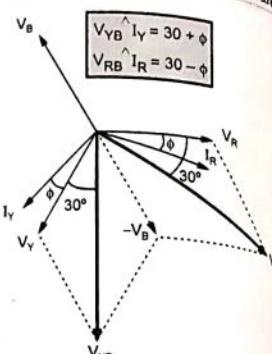

Fig. 4.14.2
- From Fig. 4.14.2,  $I_R \wedge V_{RB} = 30 - \phi$  and  $I_Y \wedge V_{YB} = 30 + \phi$